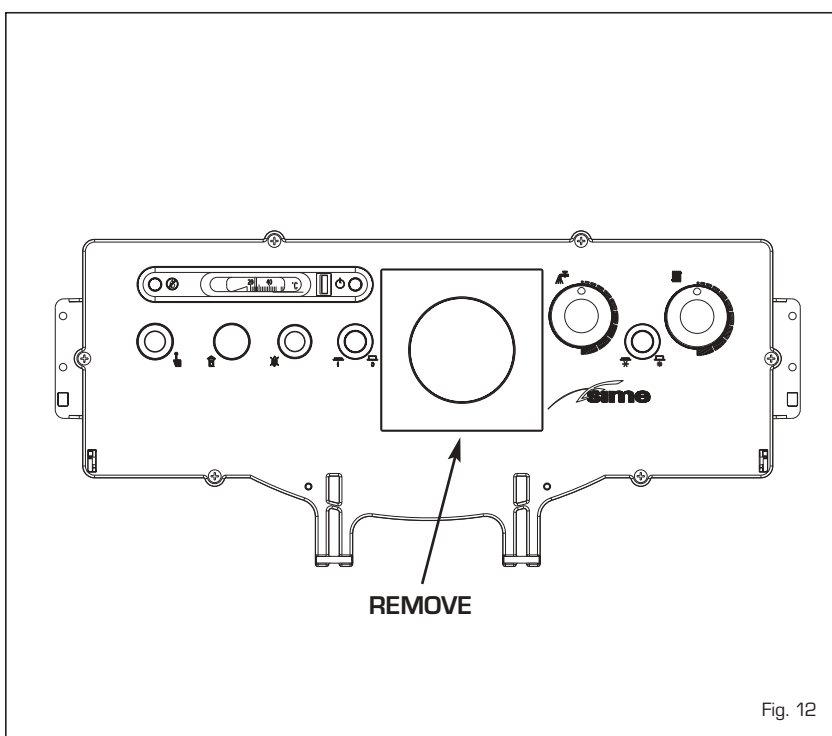

Fig. 12
4.1 RVA 43.222 UNIT (optional) (fig. 12)
The control panel allows the use of a RVA 43.222 unit (cod. 8096303) supplied in kit form upon request, complete with mounting instructions (fig. 12).